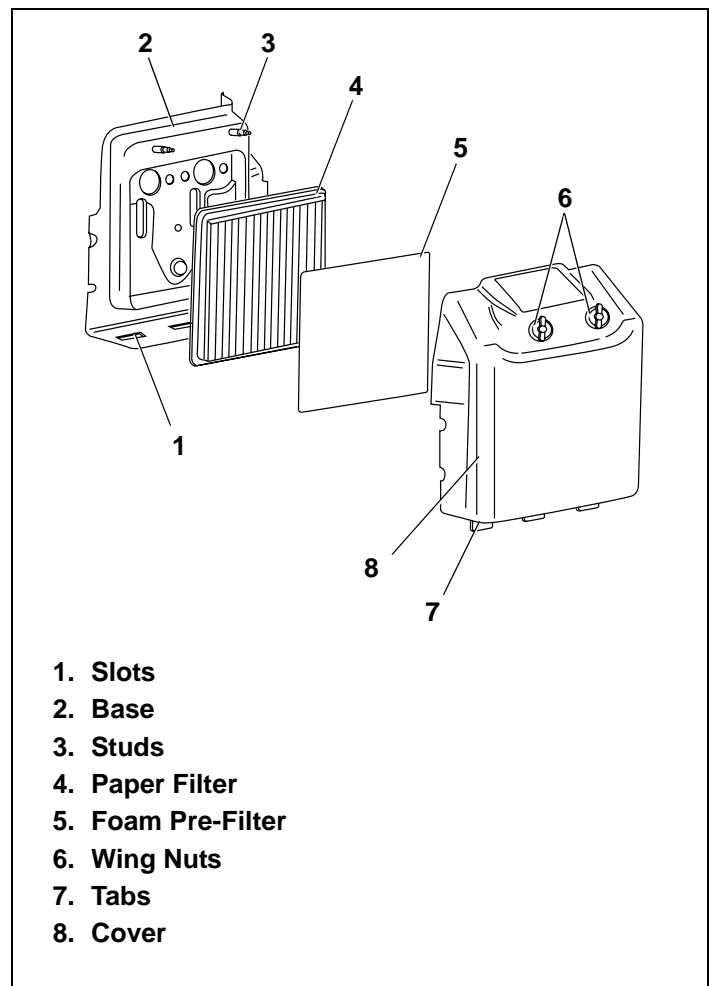

Figure 17. Air Cleaner Components
Before removing air cleaner cover, see "I. Servicing Foam Pre-Filter" instructions on page 10 and/or "II. Servicing Paper Filters" instructions on page 11. Special care should be taken to prevent damage when removing air cleaner cover. See Figure 17 on page 10. Afterward, continue reading instructions below.
1. Remove air cleaner cover and filters. See Figure 17 on page 10.
1. Remove wing nuts from air cleaner cover. See Figure 17 on page 10. Afterward, continue reading instructions below.